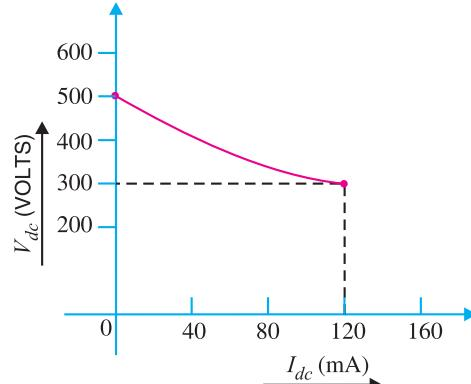

Fig. 17.4
**Example 17.4.** Fig. 17.4 shows the regulation curve of a power supply. Find (i) voltage regulation and (ii) minimum load resistance.
**Solution.** Referring to the regulation curve shown in Fig. 17.4, it is clear that :